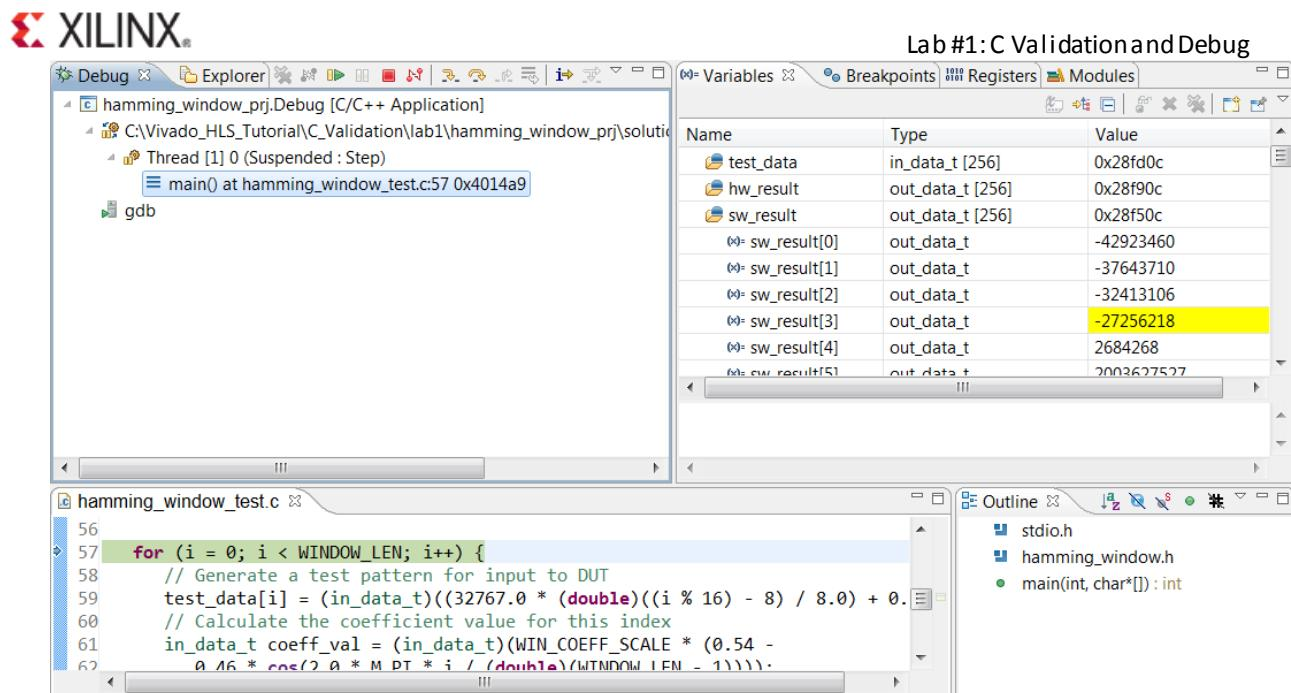

Figure 42 Analysis of C Variables
5. Expand the sw_results array to the view shown in Figure 42.